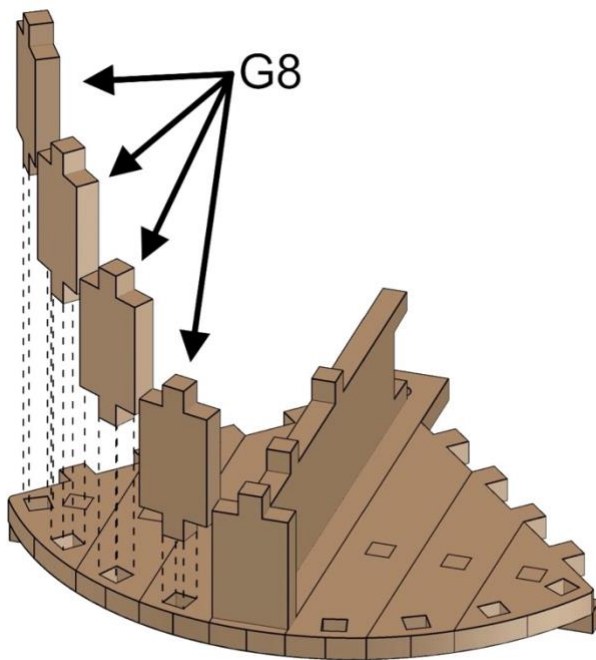

Fig. 41
- Insert the rest of the G8 pieces, as shown in *Fig. 41*.